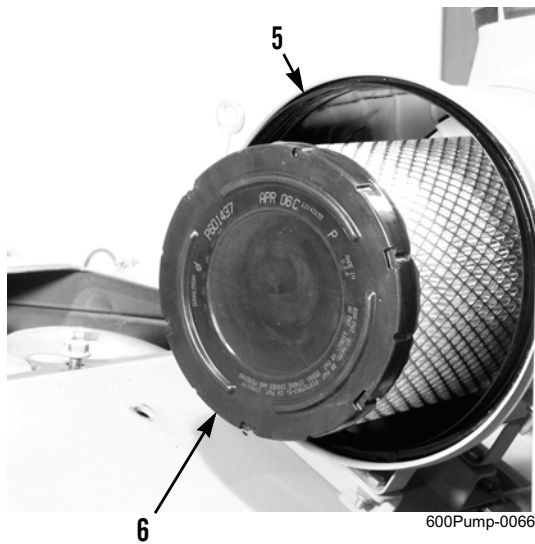

Figure 2. Primary Air Cleaner Element.
4. Remove primary air cleaner element (Figure 2, Item 6) from air cleaner housing (Figure 2, Item 5).
5. Use a rag to clean inside of air cleaner housing (Figure 2, Item 5).
6. Direct compressed air, from inside out, into primary air cleaner element (Figure 2, Item 6) while turning element. If dust and dirt does not come out easily, tap element gently to dislodge solid material.
7. If primary air cleaner element (Figure 2, Item 6) is covered with carbon or oil, soak element in detergent for 15 minutes. Wash element several times in water, rinse with clean water, and dry naturally.
8. After primary air cleaner element (Figure 2, Item 6) is dry, perform these inspections: